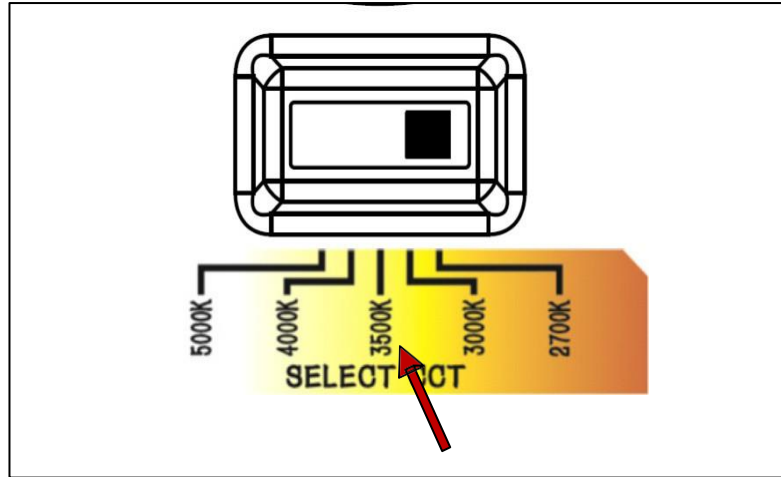
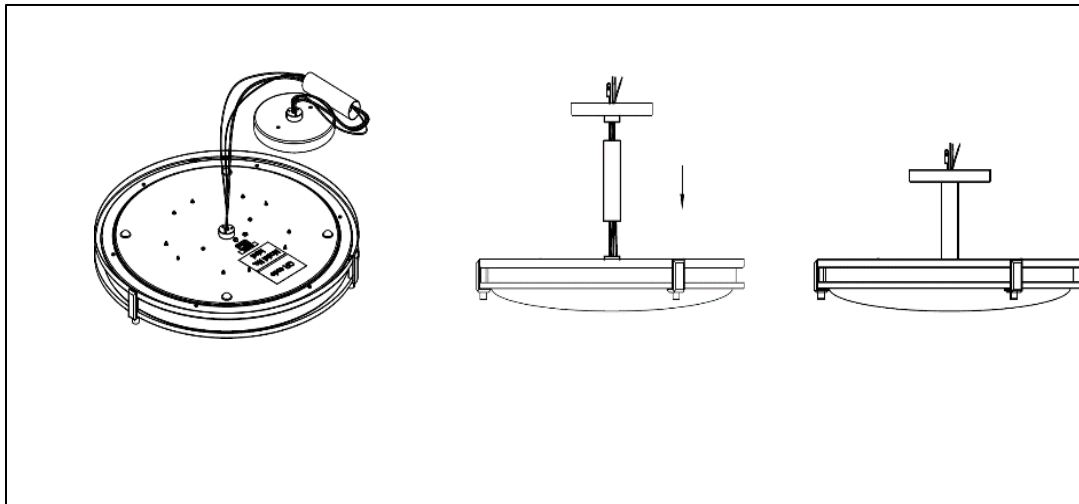

Figure 3
Figure 4
- Before Installation: On the backside of the fixture, find the switch for selecting the color temperature. Choose Your Setting: Position the switch to the desired LED color temperature: 2700K (soft); 3000K (warm); 3500K (neutral); 4000K (cool); 5000K (daylight). Shown in Figure 3. Assemble the semi flush mounting rod to the fixture back by rotating it clockwise till fully tight, then assemble the canopy cover to the rod by rotating the canopy clockwise until fully tight. (See Figure 4)